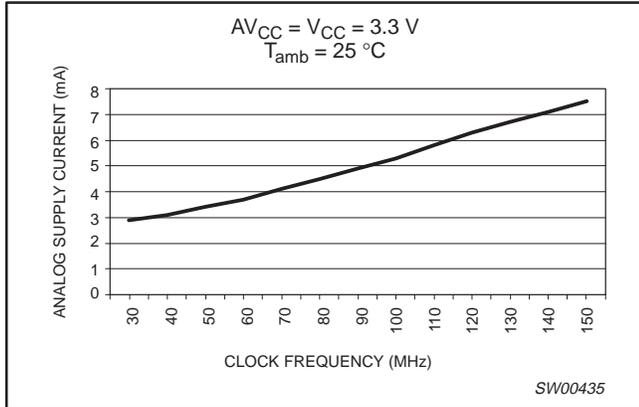

Figure 3. Analog supply current vs. clock frequency
- For I_{CCA} and I_{CC} vs. Frequency, see Figures 3 and 4.